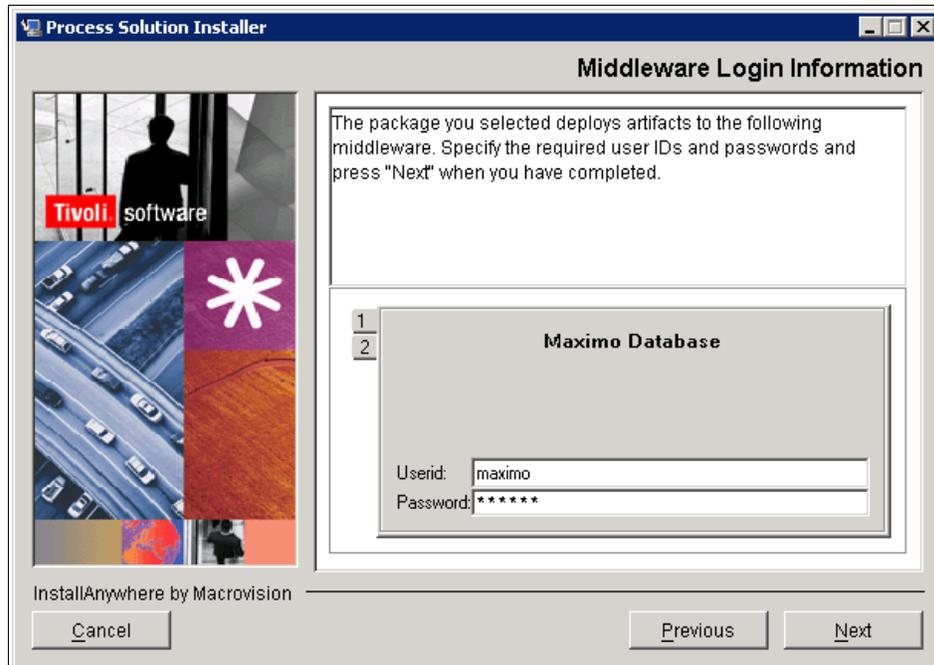

Figure 8-7 Maximo Database credentials
14. Enter the database credentials in the Middleware Login Information dialog box, as shown in Figure 8-7 on page 226. You are required to enter these credentials in order to continue. They are used to access the database and update the maximo schema with CTI-related objects.